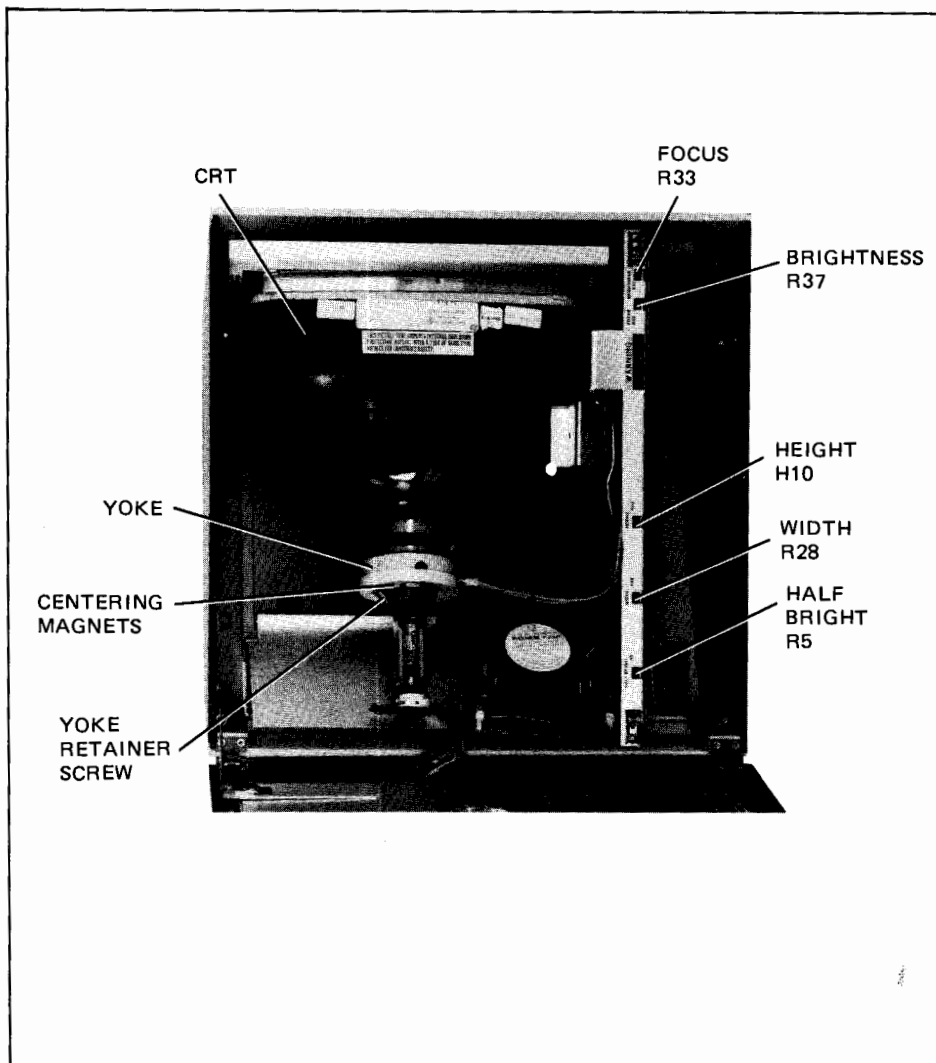

Figure 5-5. Mainframe Top Adjustment Locations
9. Adjust BRIGHTNESS R37 (see figure 5-5) for desired display brightness.